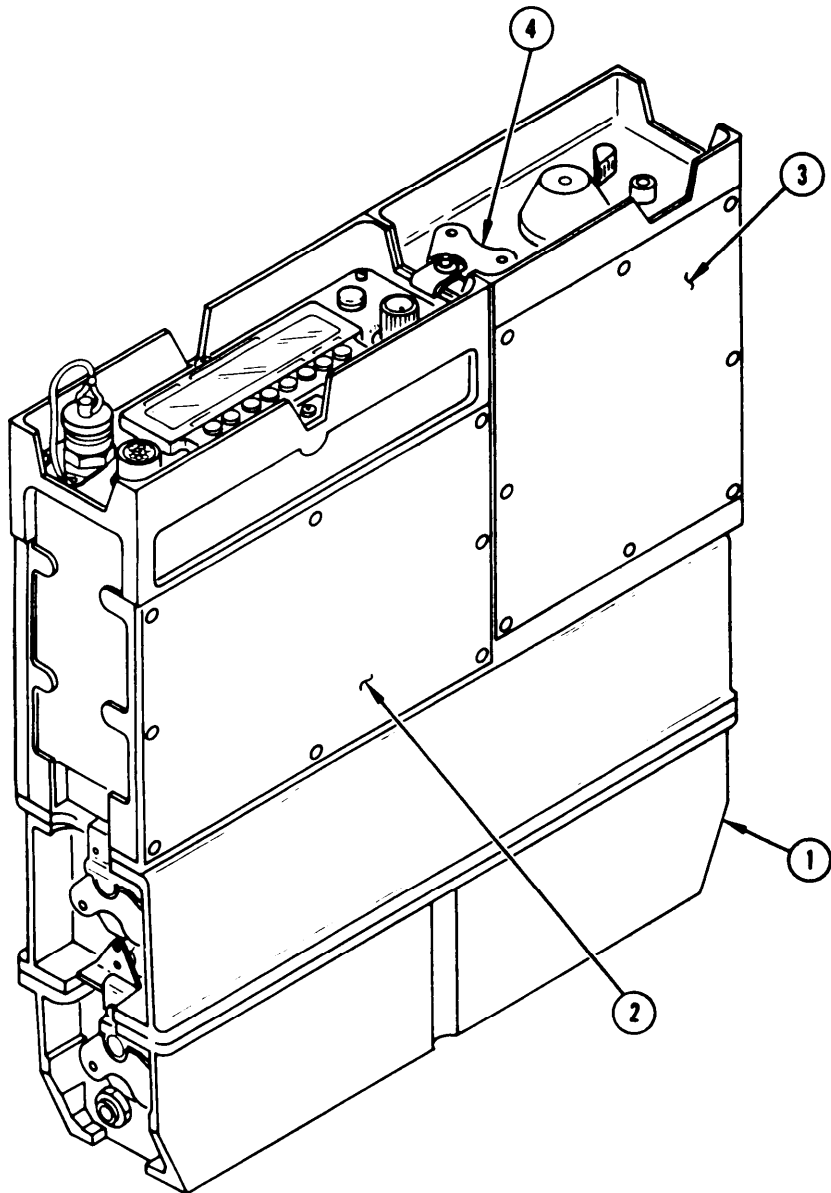

Figure 5-2. RT and Amplifier/Coupler Removal and Replacement
**AMPLIFIER/COUPLER REMOVAL AND REPLACEMENT, fig 5-2**